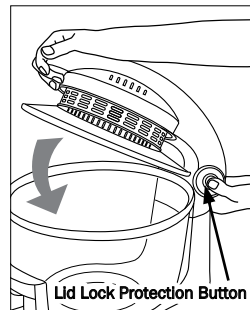

Fig 2
- To close the lid, press and hold the “ Lid Lock Protection Button” and simultaneously grasp the lid handle to close (Fig 2).